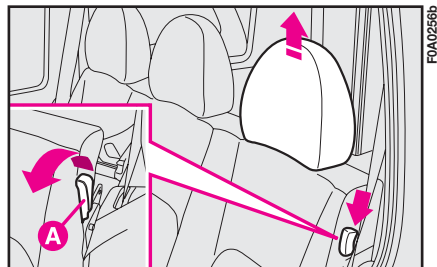
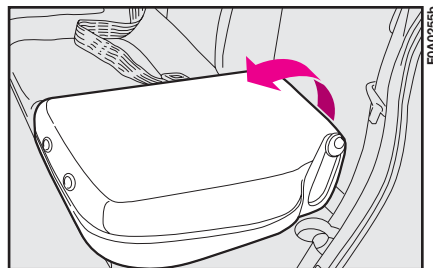

fig. 121
fig. 122
- lift knob **A-fig. 121** then tip the entire seat **fig. 122**.